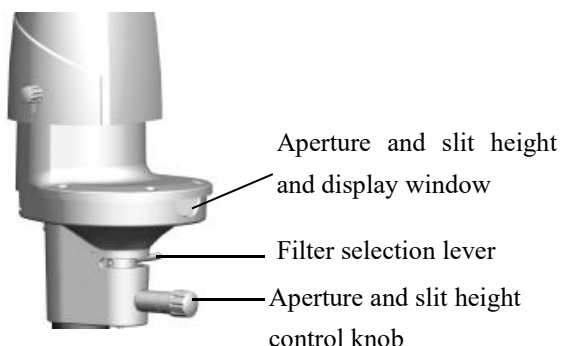
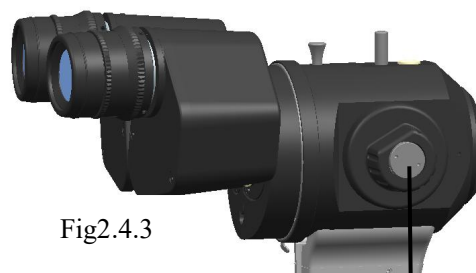
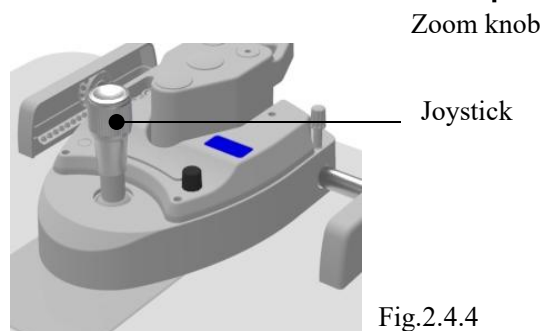

Fig2.4.2
Fig2.4.3
Fig2.4.4
4. Check whether the moving parts such as the slit and aperture width knob, the aperture adjustment knob, the filter selection lever (see Figure 2.4.2), the zoom knob (see Figure 2.4.3), and the joystick (see Figure 2.4.4) operate normally.